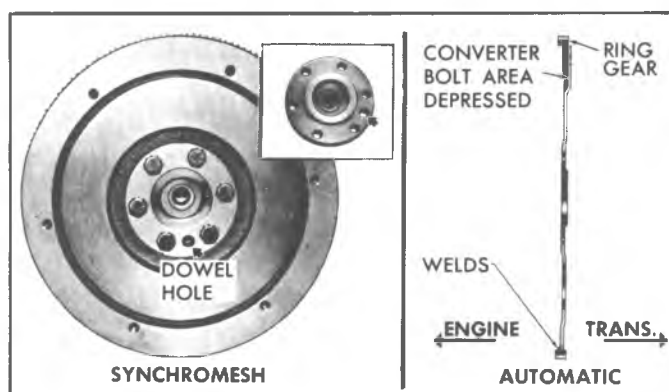

Fig. 28V—Flywheel Installation (Typical)
2. Install flywheel on crankshaft and position to align dowel hole of crankshaft flange and flywheel (fig. 28V).
NOTE: On Automatic Transmission equipped engines, the flywheel must be installed with the flange collar to transmission side (fig. 28V).